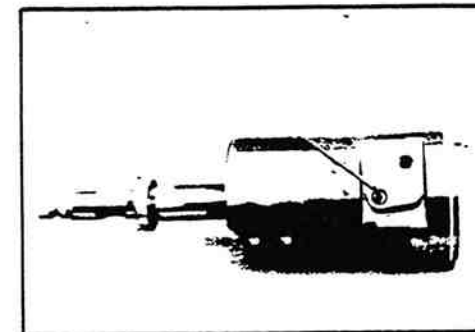
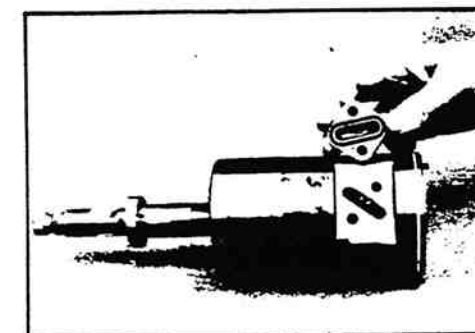

Figure 11-37. Allen Head Bolt Removal.
Figure 11-38. Removing Guide Cap.
36. Remove the two Allen head bolts (4d) (Figure 11-37) from the ball return guide cap (4e); remove the ball return guide cap (Figure 11-38) and the ball return guide cap seal (4f).